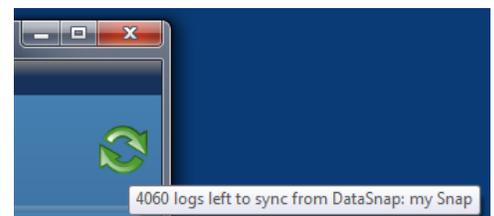

Figure 14 - Synchronization
- **Interval** - This is the number of minutes between automatic sensor readings. Figure 14 shows a DataSnap named 'Lab Experiment' that is configured to take a new set of readings every 20 minutes. This interval is measured from the beginning of the previous cycle to the beginning of the subsequent cycle. For example, if the first automatic reading cycle begins at 10am and takes one minute to complete. The second automatic reading cycle will begin at 10:20am.